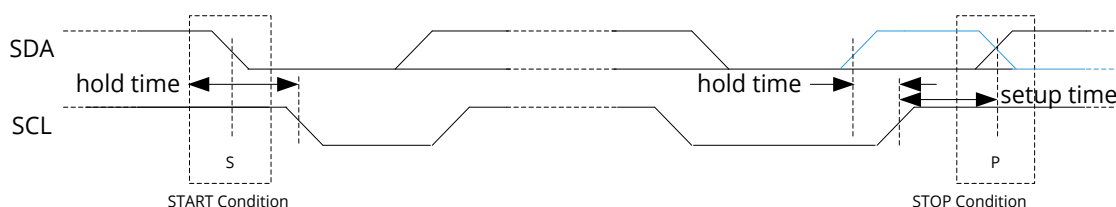

Figure 21. START and STOP (or repeated START, blue line) condition
An idle I²C bus state occurs when both SCL and SDA are not being driven by any master and are therefore in a logic HI state due to the pull up resistors. Every transaction begins with a START (S) signal and ends with a STOP (P) signal. A START condition is defined by a high to low transition on the SDA while SCL is high. A STOP condition is defined by a low to high transition on the SDA while SCL is high. START and STOP conditions are always generated by the master. This slave module also supports repeated START (Sr) condition which is same as START condition instead of STOP condition (the blue color line shows repeated START in Figure 21).